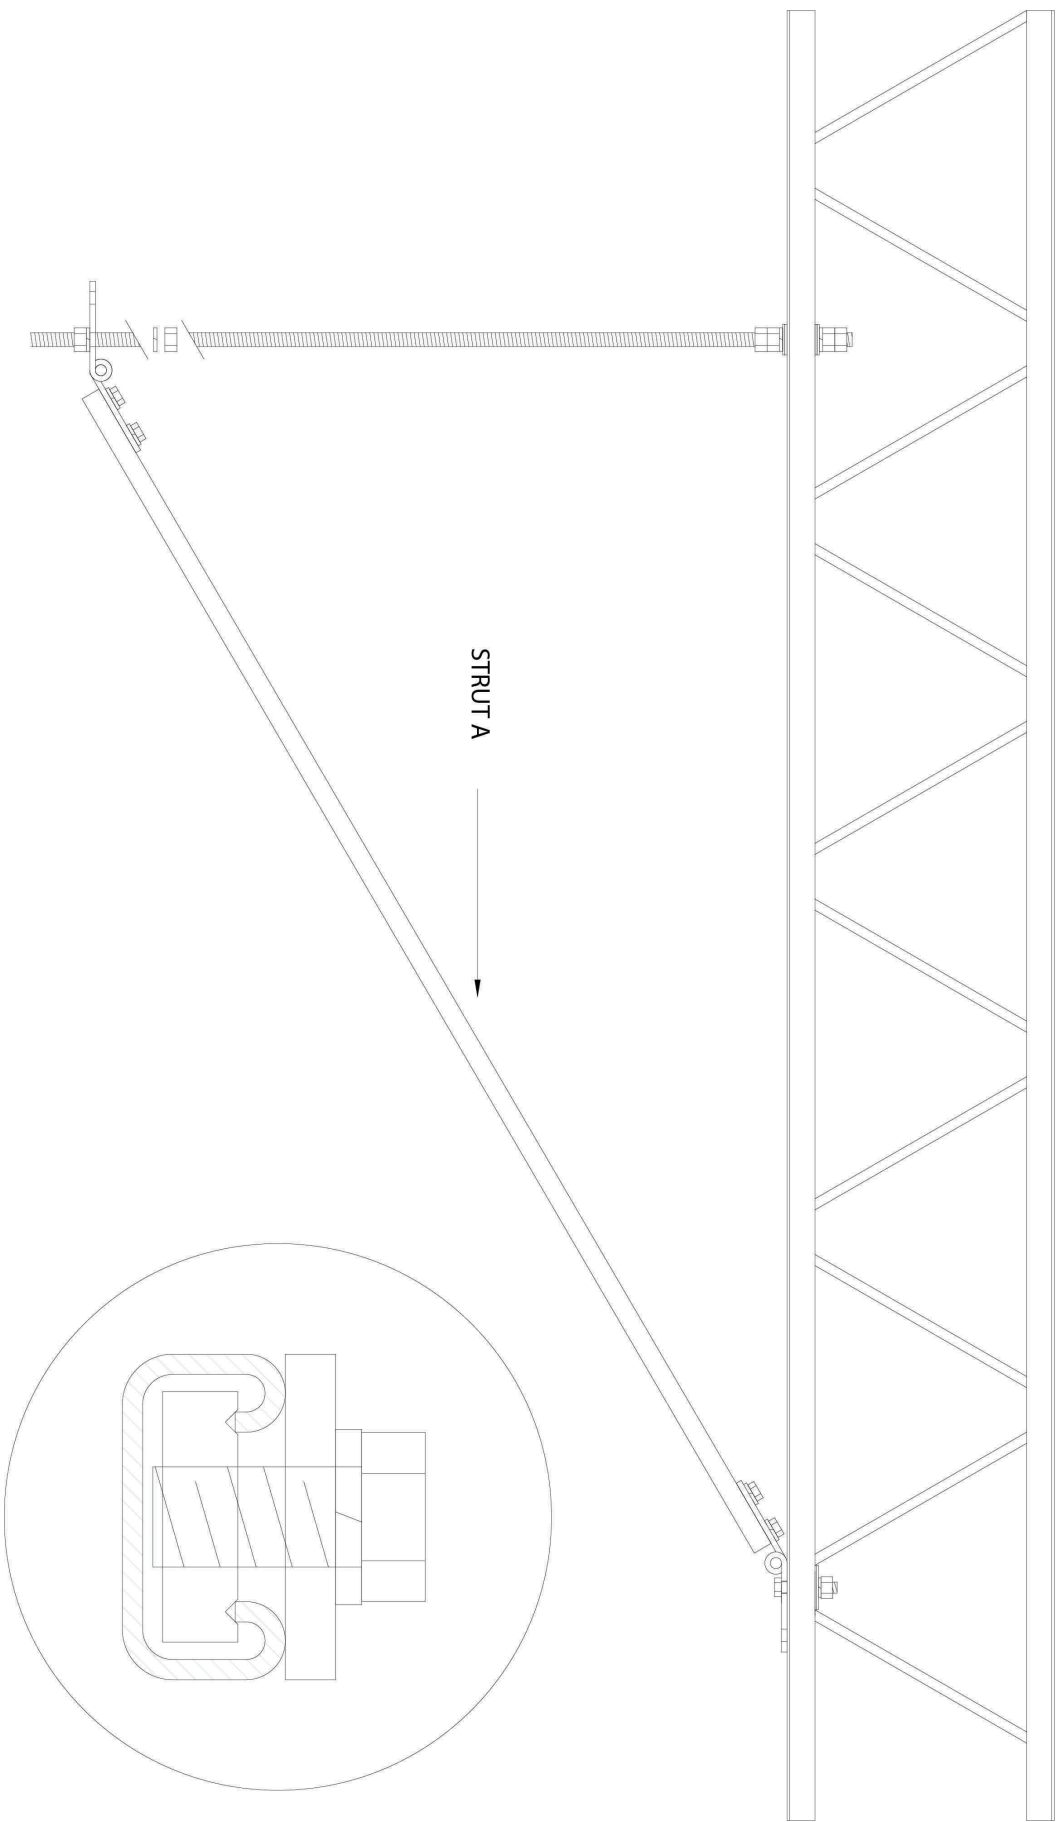
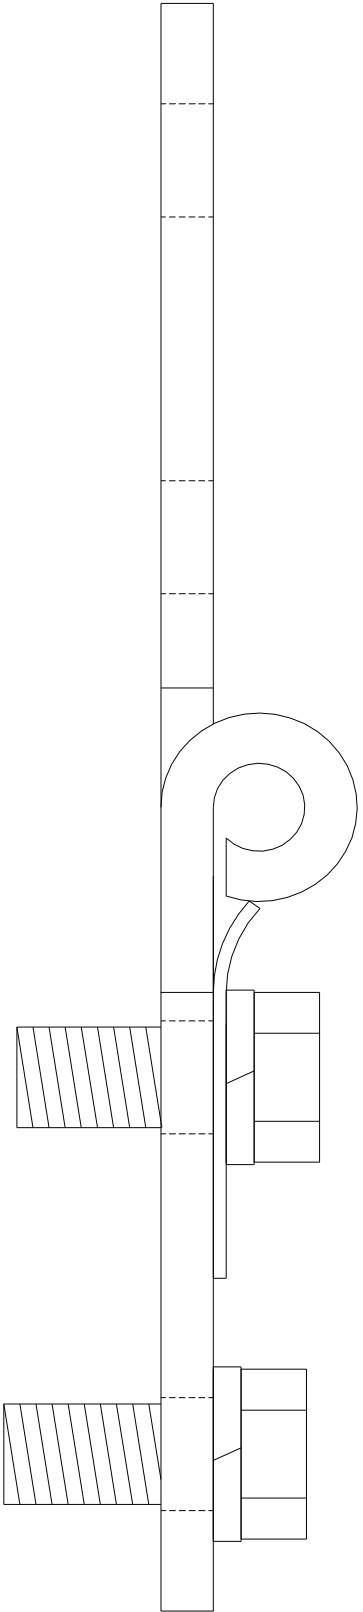

Figure 2
Figure 4
Due to manufacturing tolerances there is a small amount of play between the two parts of the hinge. This play does not affect the strength or safety of the hinge but it does make a slight clicking noise when using a swing on the attachment point. We have included a bent fender washer under the bolt closest to the hinge pivot point. When the bolt is tightened the fender washer will bear on the center part of the hinge and eliminate this play thus quieting the installation (see figure 4).
- Position strut "A" with the threaded rod through the hole closest to the hinge pin and start a 5/8" hex nut on the threaded rod. Screw the nut up approximately 3" up from the bottom of the rod to hold the hinge in place while you attach the top hinge. Screw the top nut down against the top of the hinge finger tight. Put a bent fender washer on a 1/2" x 2-1/2" hex head bolt. Put the bolt through the hole closest to the hinge pin on the top hinge (see figure 4). Put the bolt between the bottom flanges of the attachment joist as shown in figure 2. Put two 1/2" fender washers and a lock washer on the bolt. Start a 1/2" hex nut on the bolt and tighten finger tight.